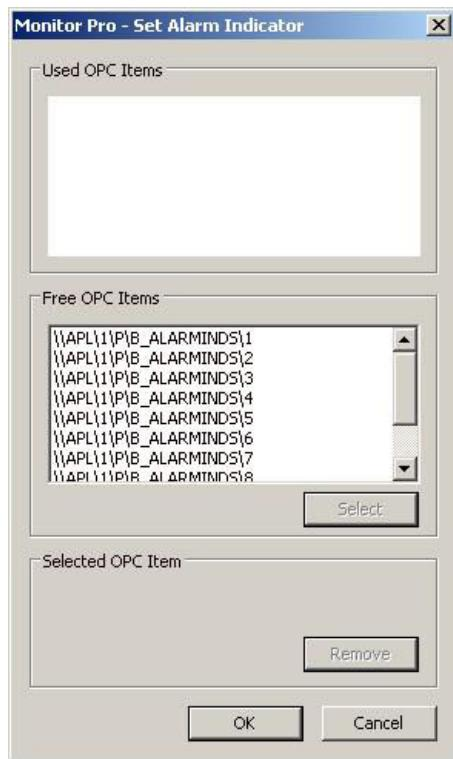

Figure 222: Setting an alarm indicator
3. The **Set Alarm Indicator** dialog is displayed, see Figure 222.